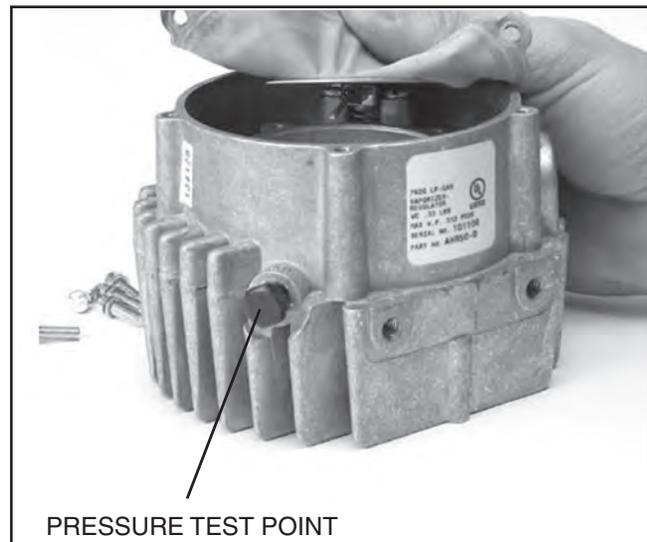

Figure 3-14. Lift Edge of Diaphragm
3. While the fuel is off, install the primary pressure test gauge at the 1/8" primary test port opening at the side of the regulator, marked "PRI". See Figure 3-14.
2. After the cover has been removed, lift up an edge of the diaphragm. Observe how it is attached to the secondary lever. See Figure 3-14.